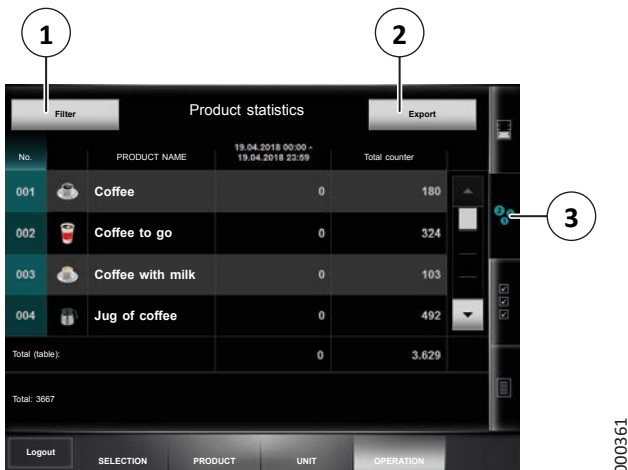

Fig. 35: Product statistics
5. Slide the cover on the inside of the machine door (1) to the side.
6. Insert a suitable USB stick (2) into the USB slot.
8. Press the “Export” button (2) (see Fig. 35).